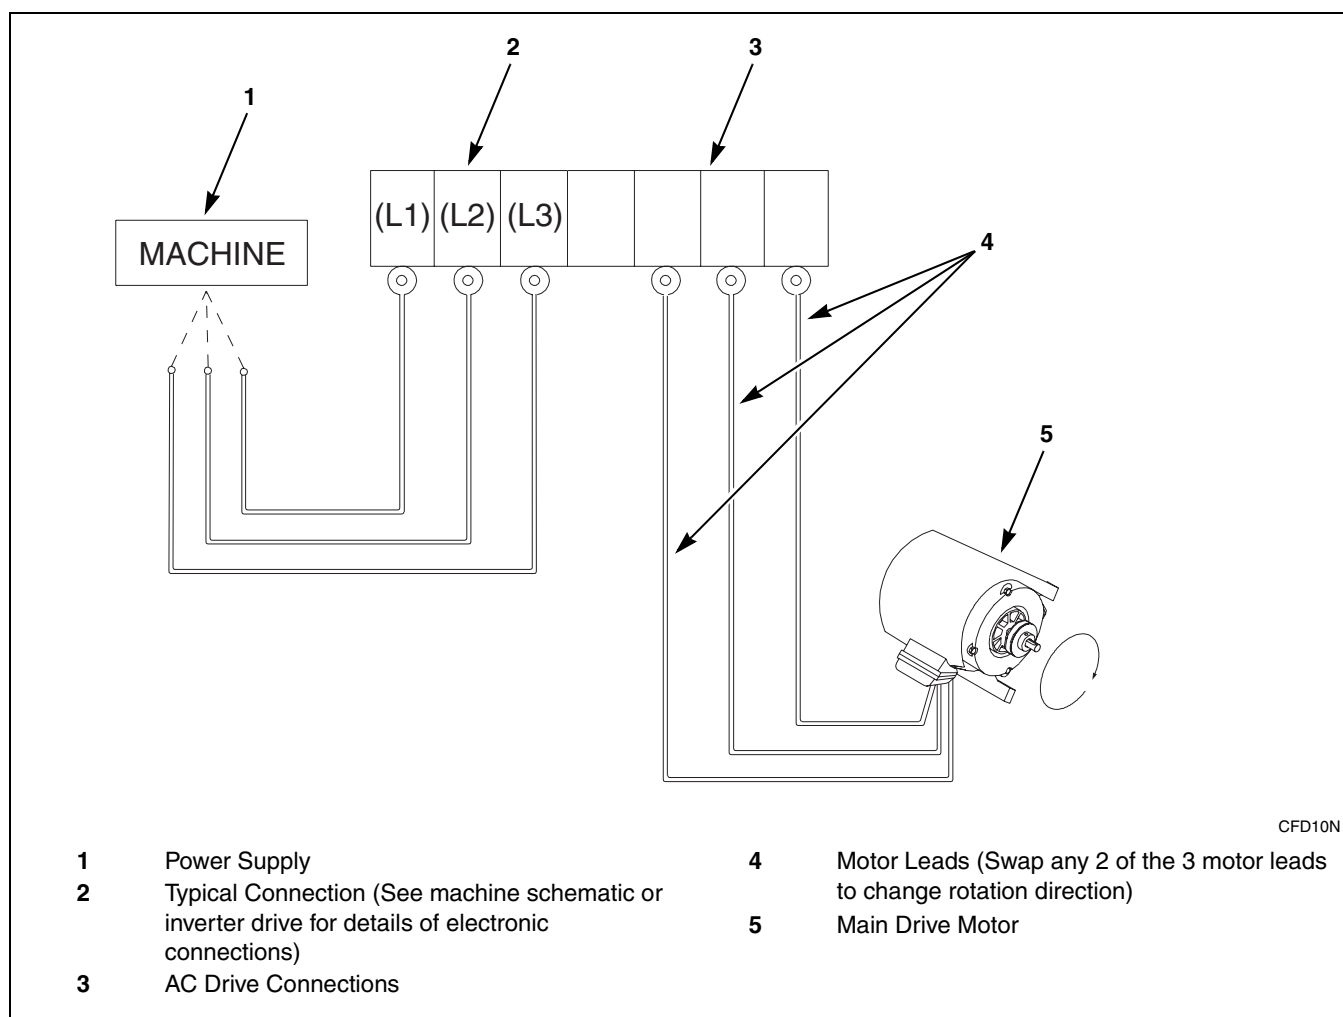

Figure 13
8. Cylinder rotation must be clockwise in an extract step for all models. If rotation is not correct, disconnect power. A qualified electrician must reverse any two leads between the AC drive and the main drive motor. Refer to *Figure 13*.